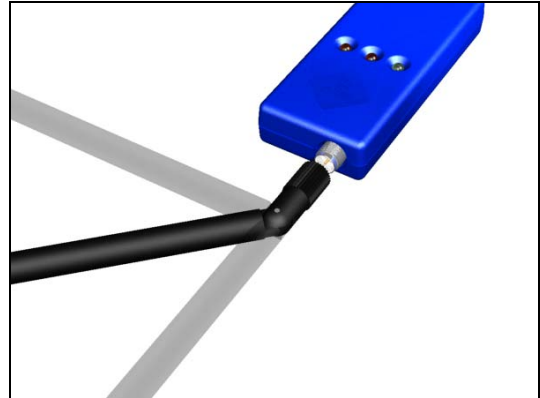

Figure 155: KIC Explorer Base Station, RF Models Only
The *KIC Explorer Base Station* is part of the optional *RF* hardware. The *Base Station* facilitates the 2-way *wireless (RF)* communication between the *KIC Explorer* and the computer running the *KIC 2000* software. See Figure 155.
The *KIC Explorer Base Station* antenna is a screw on-90 degree pivot. See Figure 155.